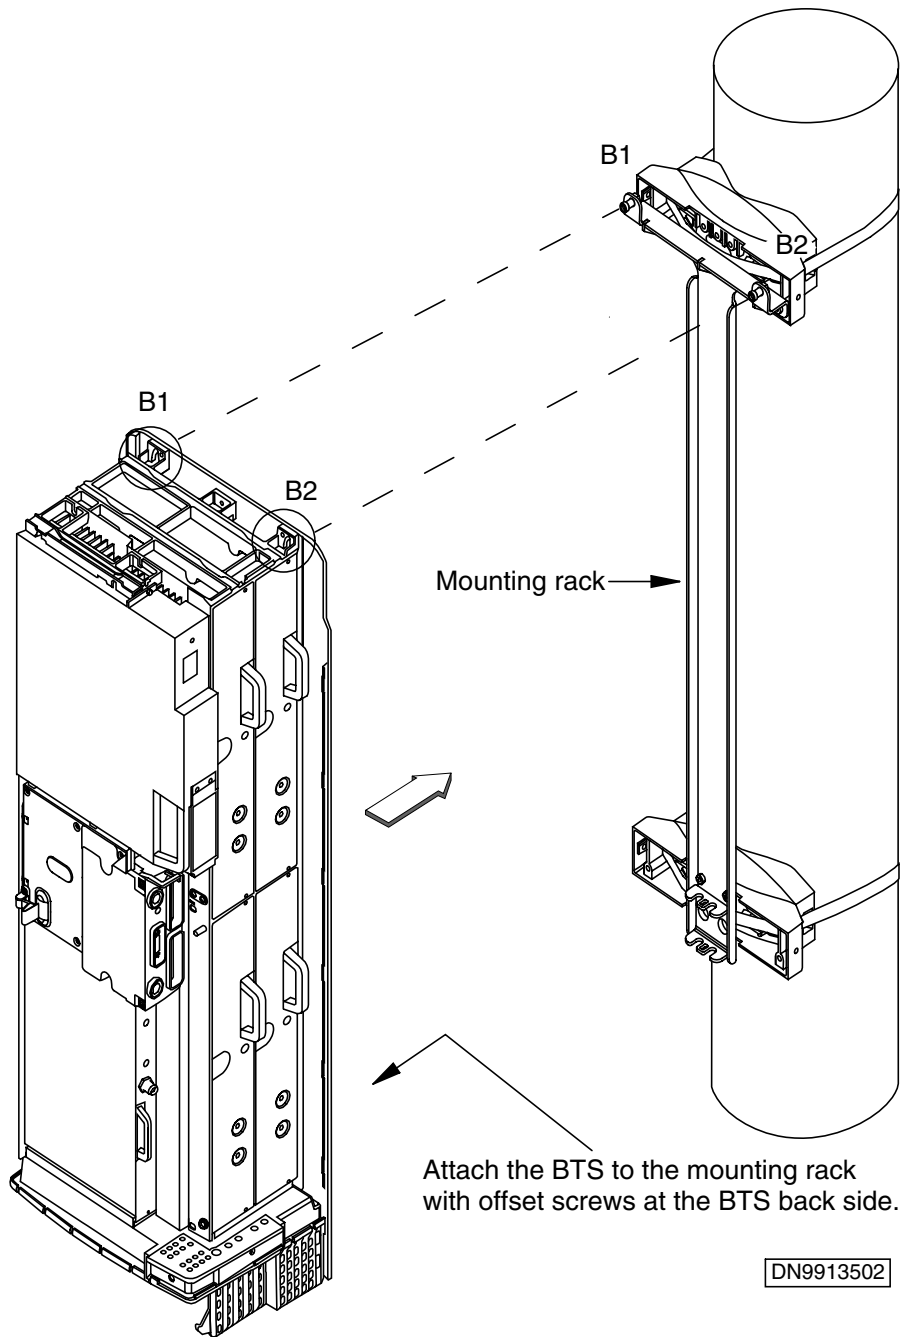

Figure 15. Pole mounting with large-pole mounting kit
1. Bring the BTS to the mounting rack and hang it on the upper BTS fixing screws, B1 and B2 in Figure 15. Do not tighten them yet!
3. Tighten the upper BTS fixing screws (B1 and B2 in Figure 15) to 5.5 Nm (4.06 lb ft) using a torque driver with a 4 mm Allen bit.